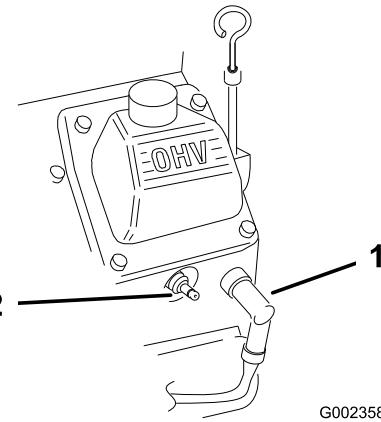

Figure 24
2. Disconnect the wires from the spark plugs (Figure 24).